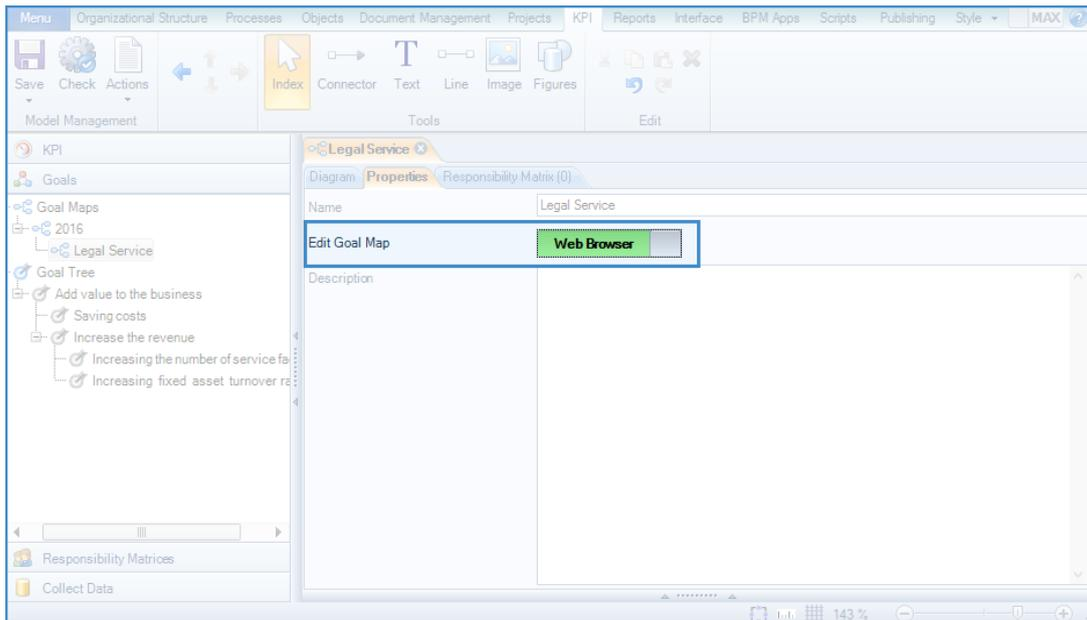

Fig. 106. Switching the editing method
**ELMA KPI** module provides advanced capabilities for managing the goal maps. Yet in the **Designer** the access to the projects for certain users is restricted. Thus, the main functions are available in the **Web Application**. To continue to work with created map open **Properties** tab and switch the **Edit Goal Map** slider from the **Designer** position (colored in blue) to the **Web browser** (colored in green) (Fig. 106). Save and publish the model. After that, according to the access permissions user will be able to work with the goal map in the **Web Application**.